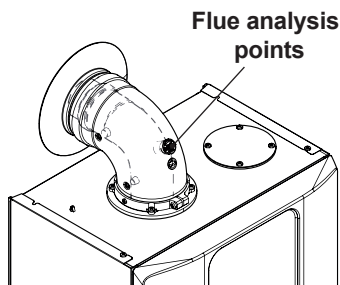

Fig. 10.16
It is compulsory to conduct a combustion analysis. Remove the plug as indicated in Fig. 10.16 and carry out combustion analysis check and adjustment if necessary as described in the section "Gas valve - Adjustment - Chimney Sweep Mode" of the Service manual.
- Check the combustion of the boiler using the outlets located on the flue tubes (Fig. 10.16) and compare the data measured with that following.